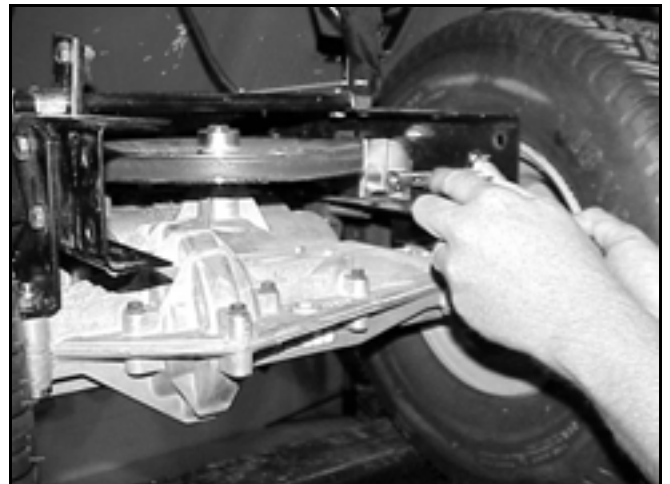

Figure 63
9. Install the right and left transaxle belt guides (Figure 63).